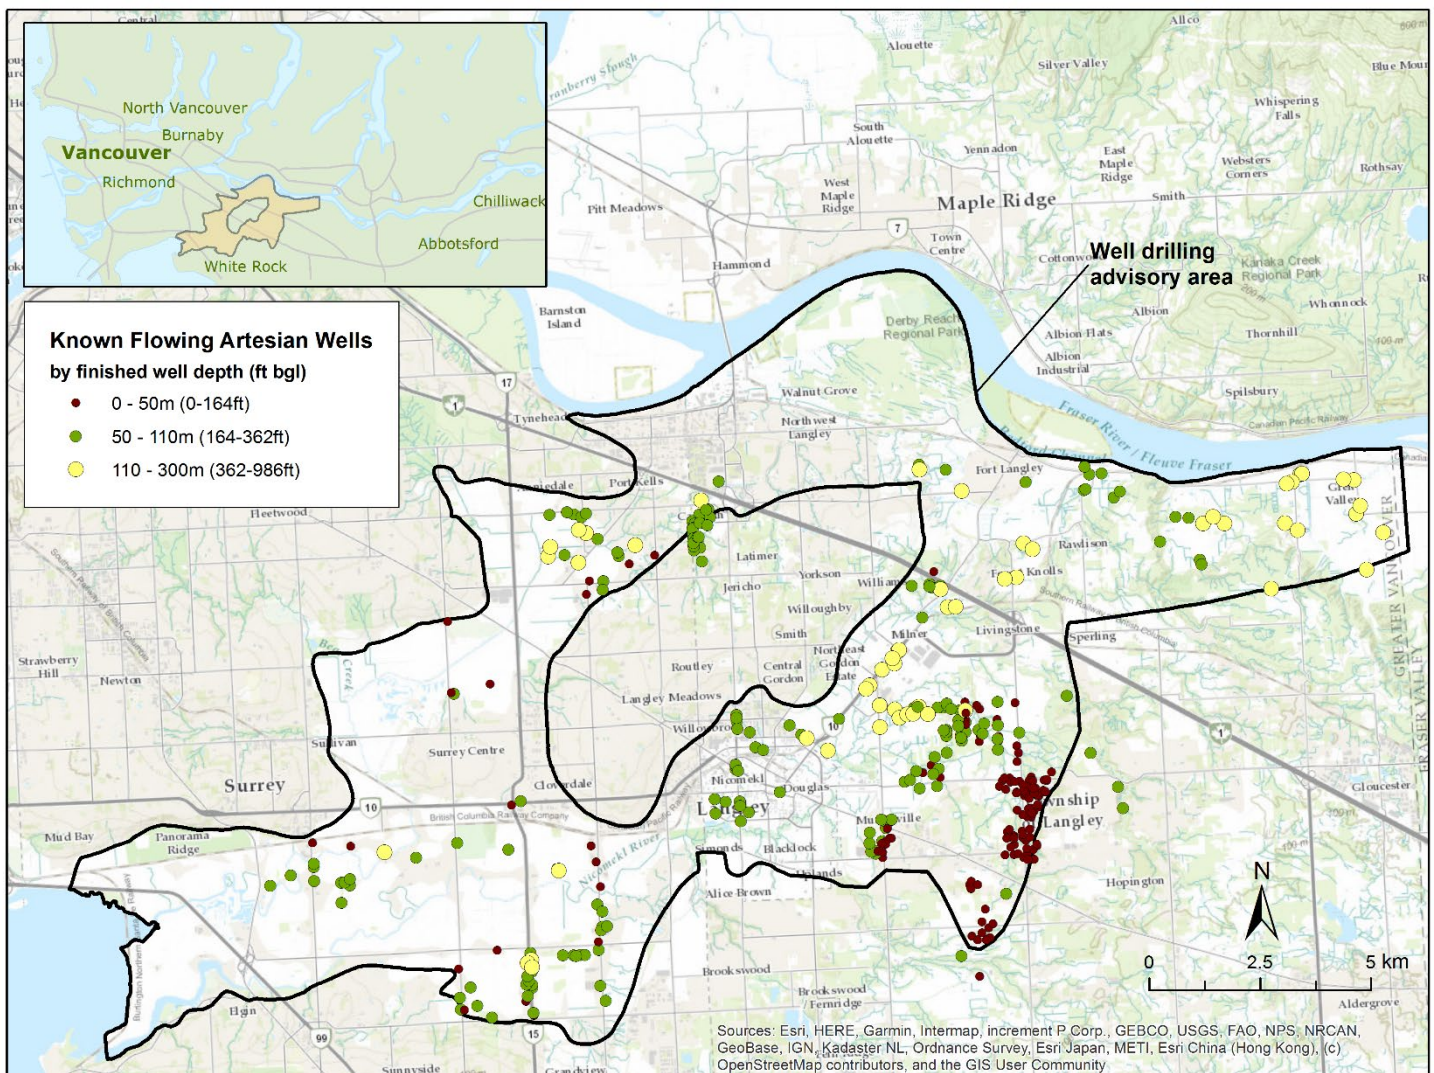

Figure 2: Map of the location of potential flowing artesian conditions (aquifers 58, 33, and 51) in Langley and Surrey, B.C.
The area under potential artesian pressure is located within the Township of Langley boundaries and extends westward into the City of Surrey (Figure 2). The area covers approximately 193 square kilometers and includes Aquifers 58, 33, and 51.
Aquifers 58, 33 and 51 underlie much of the Township of Langley and the western portion of the City of Surrey (Figure 2). They are comprised of sands and gravels of glaciofluvial and glaciomarine outwash. Aquifer 58 is associated with the Semiahmoo and possibly pre-Semiahmoo glaciations; Aquifer 33 is associated with the Early Fort Langley Formation or intertill deposits of the Vashon Drift Formation; and Aquifer 51 is characterized as a series of interbedded glaciofluvial sand and gravel tentatively assigned as Vashon Drift. All three aquifers lie beneath thick intervals of silt, clay and till. The presence of these low permeability sediments overlying the aquifers acts as a confining layer. The confining layer creates a buildup of pressure by restricting flow of water out of the aquifer, resulting in artesian conditions.
It is important to understand that geologic conditions are highly variable and information may not be available near the proposed drilling location(s); therefore, neither the presence nor absence of flowing artesian conditions can be known with certainty prior to drilling. Therefore, when drilling into aquifers within the area of this advisory (see Figure 2) in Surrey and Langley, it should always be assumed that flowing artesian conditions will be present and assume a precautionary approach (e.g., installing and sealing a surface casing of sufficient length). The well driller and property owner must be prepared for the resulting costs, planning time, materials, expertise and equipment needed to construct the well to control or stop any artesian flow.
- Assume flowing artesian conditions will be encountered in the subject area (Figure 2).